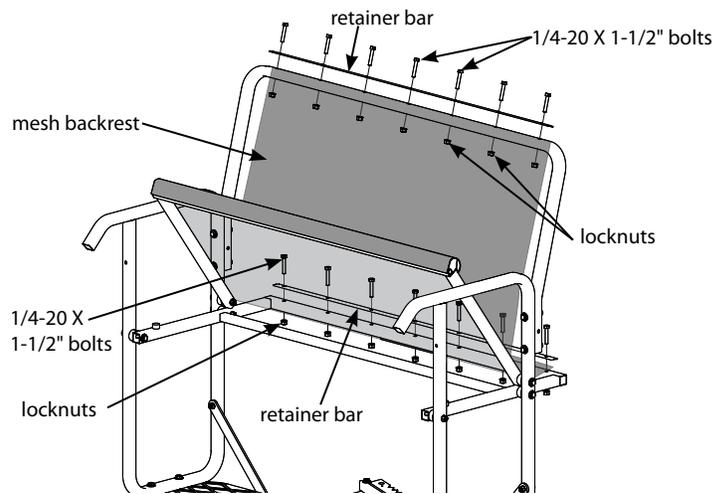
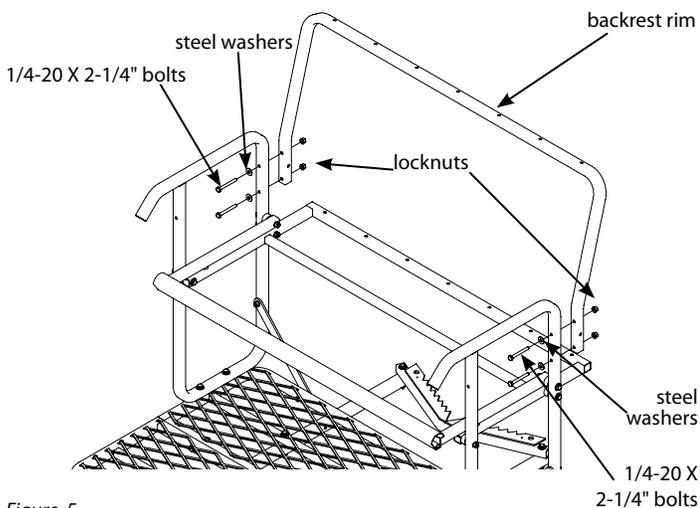

Figure 6A
Figure 5
8. Attach the backrest rim (10325) to the side seat support loops using (4) provided 1/4-20 x 2-1/4" bolts, locknuts and steel washers. **SEE FIGURE 5. You must now tighten all nut and bolt assemblies. Be sure not to over tighten or crush tubing when tightening!**
9. With all nut/bolt assemblies tightened, flip the seat assembly to the upright position. This must be done in order to allow slack in the mesh material to complete seat attachment. Attach the mesh backrest and (1) retainer bar (10239) to the top side of backrest tube and the plastic stiffening rod located in the sewn sleeve of mesh backrest **MUST** be positioned behind the retainer bar to act as a stop and prevent the backrest from pulling out during use. All bolts **MUST** go through the retainer bar, holes provided in mesh backrest and the backrest rim. **Tighten these bolts securely at this time. Do not crush tubing when tightening.**
10. With the seat still flipped up into the upright position (to allow for slack in mesh material), attach the mesh "tail" section of the seat/backrest and (1) retainer bar (10239) to the top side of tree blade frame using (7) provided 1/4-20 x 1-1/2" bolts and locknuts. **SEE FIGURES 6A/6B.** The mesh "tail" section must be positioned on top side of tree blade tube and the plastic stiffening rod located in the sewn sleeve of mesh "tail" section **MUST** be positioned behind the retainer bar to act as a stop and prevent the "tail" section from pulling out during use. All bolts **MUST** go through the retainer bar, holes provided in mesh "tail" section and the tree blade. **Tighten these bolts securely at this time. Do not crush tubing when tightening.**